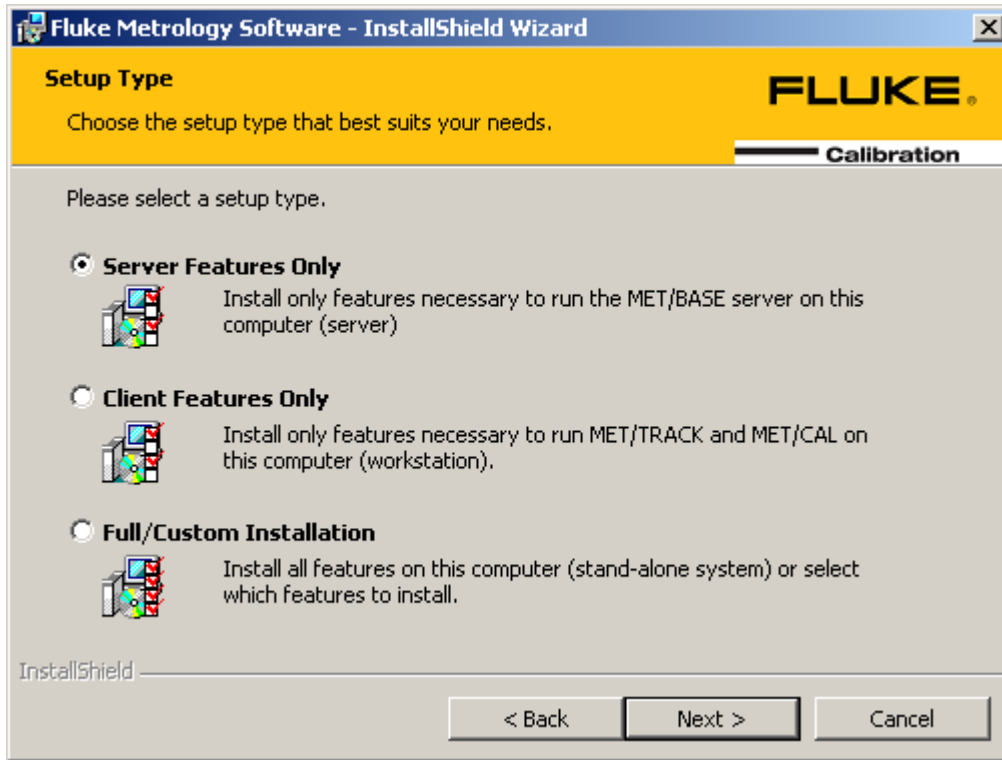

Figure 2. Installation Options
6. Select the appropriate option for features to install on this PC. If this is a stand-alone system, select the **Full/Custom Installation** option. If this PC is the server in a client/server (networked) system, select the **Server Features Only** option, see Figure 2.